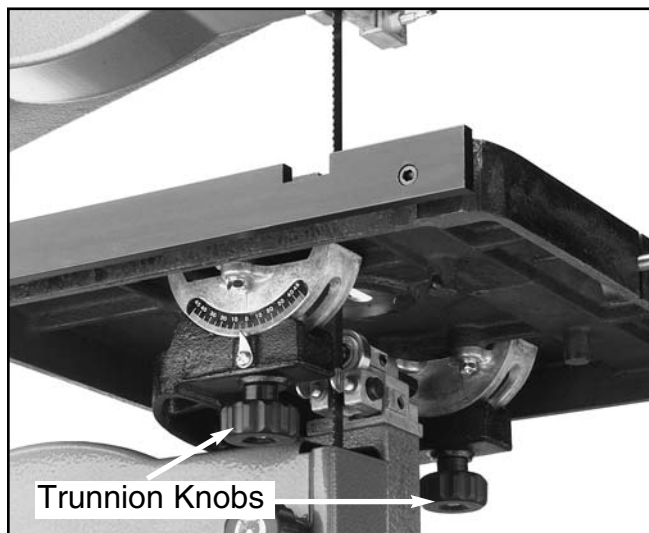

Figure 18. Table tilt trunnion knobs.
1. Loosen the two trunnion knobs below the table trunnions. **See Figure 18** for location.